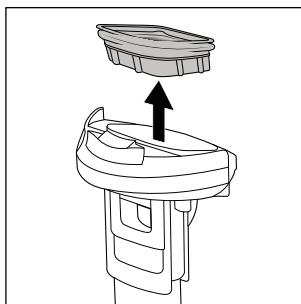

Fig. 24
- ◆ Remove the dirt filter **10** from the waste water tank **2** by pulling on the side of the seal on the dirt filter **10** with your fingers. Pull the dirt filter **10** upwards out of the lid of the waste water tank **9** (see Fig. 24).